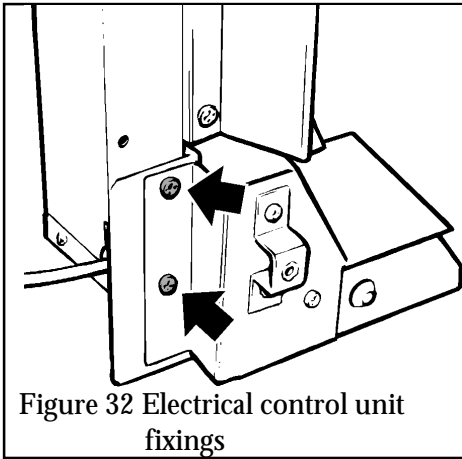

Figure 32 Electrical control unit fixings
13.9.2 Detach the control unit from the convection box left side flange by removing two screws (see figure 32). Carefully pull the unit slightly forward.